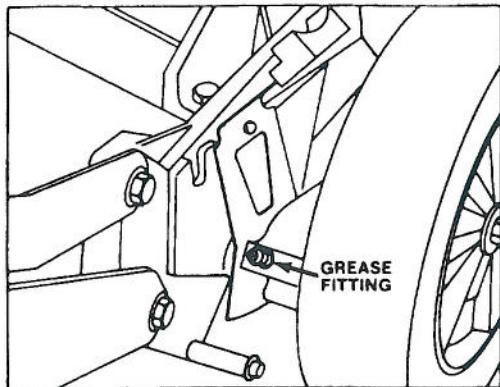

Figure 23
2. Model 20620 only—Move rear wheel height-of-cut levers to "C" setting. Wipe grease fittings with clean rag (Fig. 23). Install grease gun onto fitting and gently apply 1 pump of #2 Multi-Purpose Lithium Base Grease. Excess pressure may damage seals.